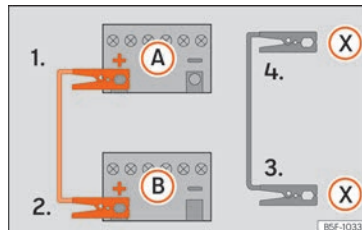

Fig. 69 Diagram of connections for vehicles with Start Stop system
- 4b. *In vehicles with a Start-stop system:* connect one end of the *black* jump lead (X) to a suitable ground terminal, to a solid piece of metal in the engine block, or to the engine block itself » **Fig. 69.**
5. Connect the other end of the *black* jump lead (X) to a solid metal component bolted to the engine block or to the engine block itself of the vehicle with the flat battery. Do not connect it to a point near the battery (A).